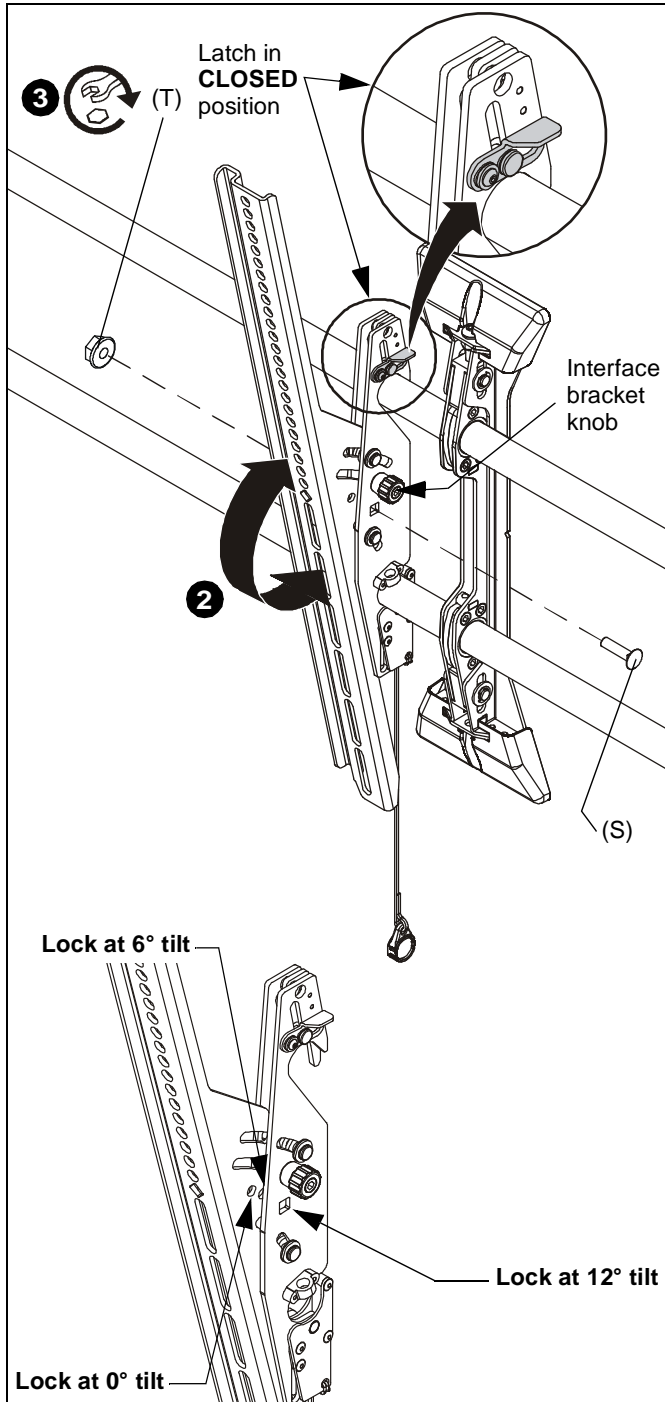

Figure 16
3. **(XTM1U only)** Move latch on top of interface brackets to CLOSED position. (See Figure 16)
2. Adjust tilt as required. (See Figure 16)
3. The tilt may be locked at  $0^{\circ}$ ,  $6^{\circ}$  or  $12^{\circ}$  using one 1/4-20 x 1" round head carriage bolt (S) and one 1/4-20 hex nut (T) per interface bracket. (See Figure 16)